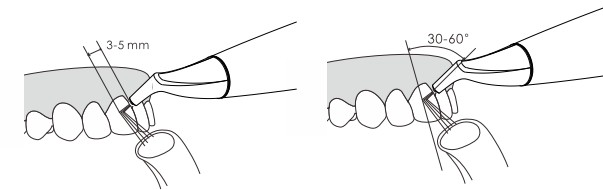

Figure 8 Subgingival Sandblasting
- Do not direct the nozzle directly towards to the surface of teeth. Respect a distance of 3 to 5mm. Vary the angle between nozzle and tooth from 30 to 60 degrees. (See Figure 8)